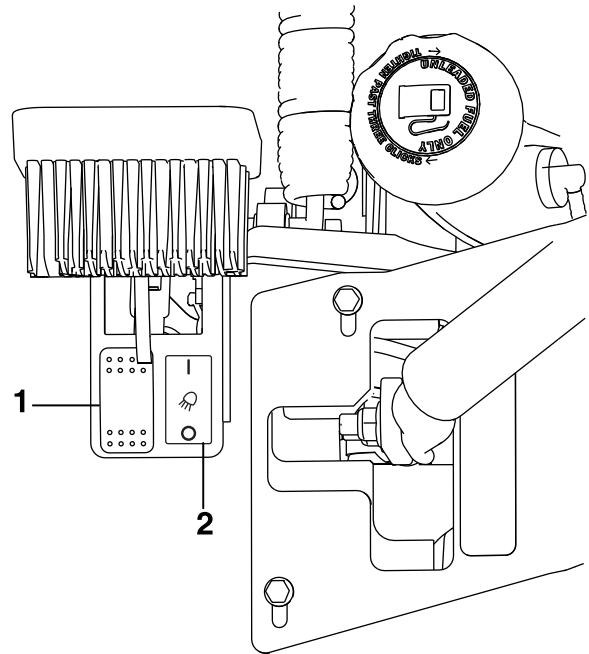
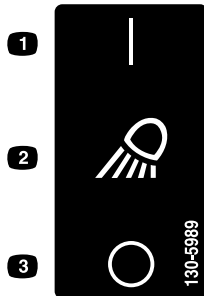

Figure 7
Figure 6
18. Connect the light harness to the switch. Make sure the connectors are fully inserted onto the terminals. Carefully snap the switch into the cutout. Install the switch into the LH bracket so the lights are on when the switch is pushed down on the front and toggling it rearward will shut the lights off (see Figure 6).
1. With the key switch off and the light switch off, the work lights should not be on (see Figure 6).
3. Turn the key switch on. The light switch should toggle the lights off and on. The lights should be off when the switch is depressed down on the "O" side of the decal (see Figure 6 and Figure 7). If the lights operate opposite of this remove and turn the switch 180 degrees and re-install.